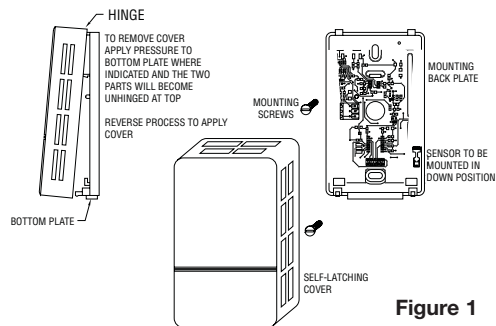

Figure 1
1. Remove top of base. Push button on bottom of base and lift off cover. See Figure 1.
Use maximum 18 AWG wire for wiring terminals. Refer to Figures 1 and 2 for wiring information.